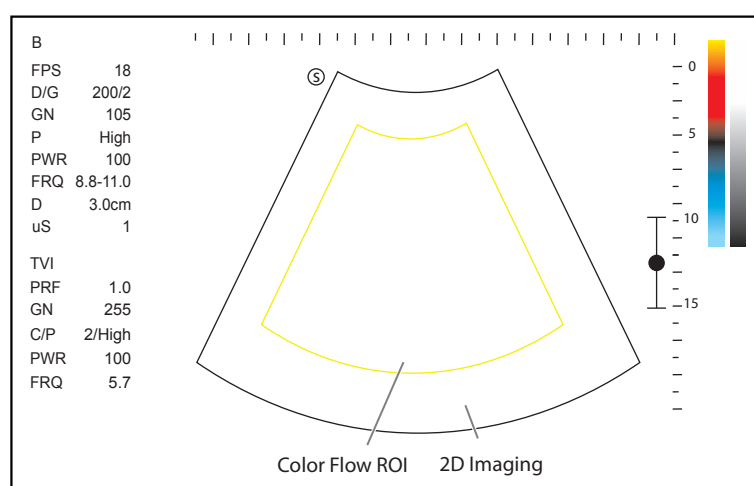

Figure 6-9 TDI-Mode Imaging Screen
2. Tap **TDI** on the touch screen or press the **TDI** key on the keyboard to enter the TDI mode. The basic screen is shown in Figure 6-9.